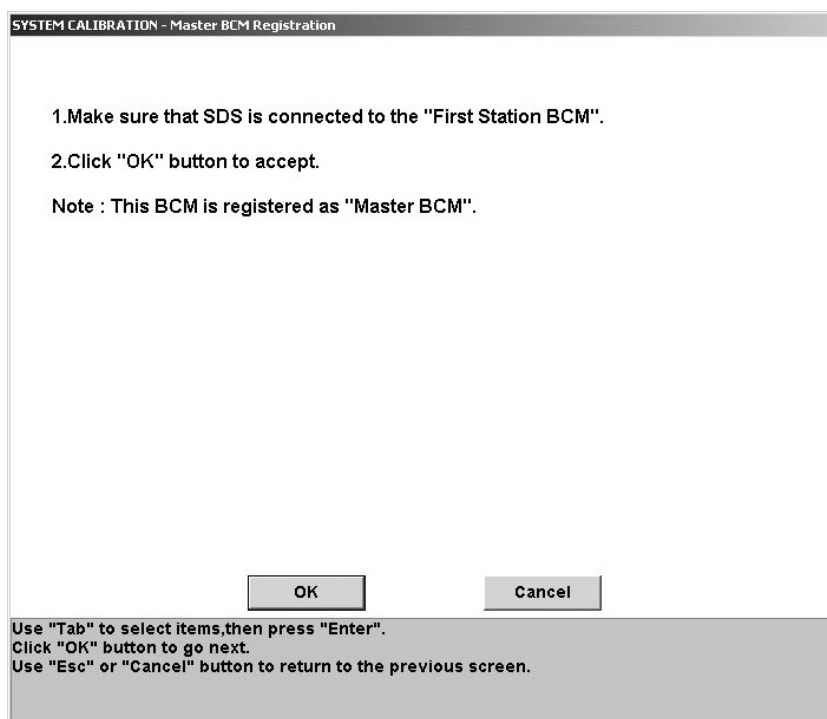

Fig.89
3. The following window appears (Fig.89). Click the “OK” button and proceed to the next step (“Enter” key on the keyboard).